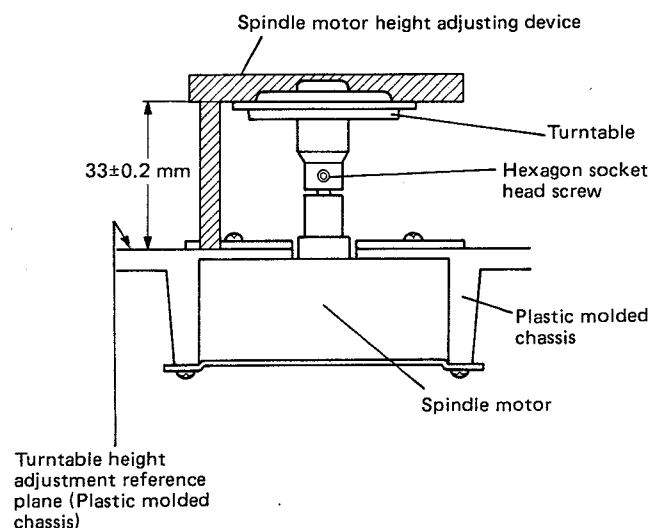

Fig. 24
4. Loosen the hexagon socket head screw, and lower the turntable until the leg section of the height adjustment device comes into contact with the reference plane. Then, retighten the hexagon socket head screw securely. (Fig. 24)